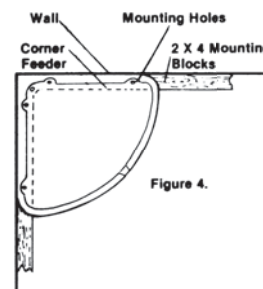

Figure 4.
- A. Anchor two pieces of 2 X 4 blocks, approx. 20" long, in the corner of your stall as shown in figure 4. Place CORNER FEEDER snugly into corner over 2 X 4 blocks. Mounting holes should be centered over 2 X 4 blocks. Use four lag screws to fasten feeder to anchoring blocks.